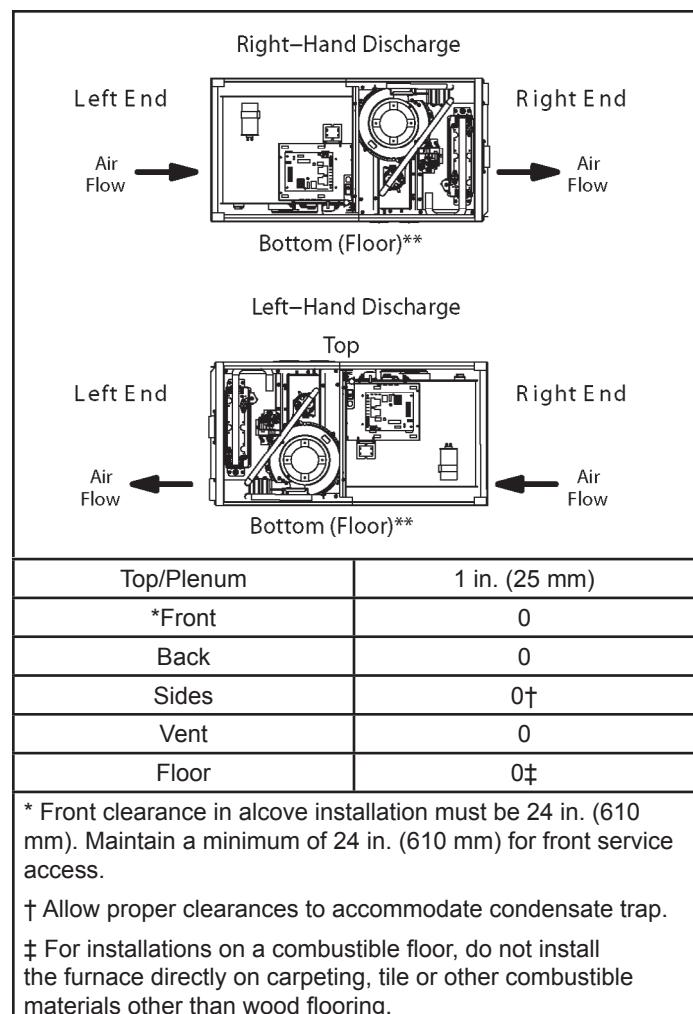

Figure 18. Horizontal Application Installation Clearances
Refer to Figure 18 for clearances in horizontal applications.
1. Select location for unit keeping in mind service and other necessary clearances. See Figure 18.